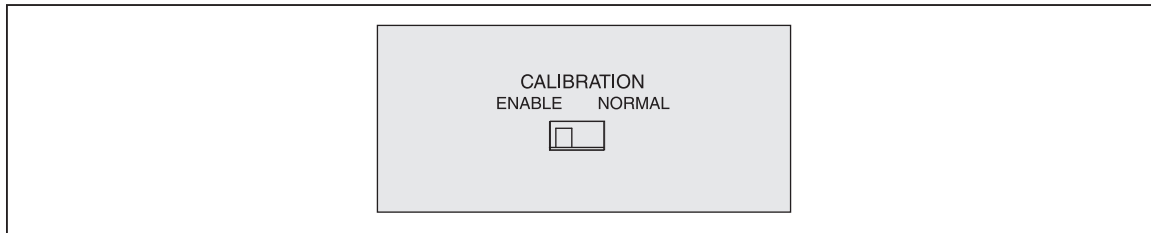

Figure 5-3. Calibration Enable Switch
- On the rear panel of the Product, set the Calibration switch to **Enable**. See Figure 5-3.